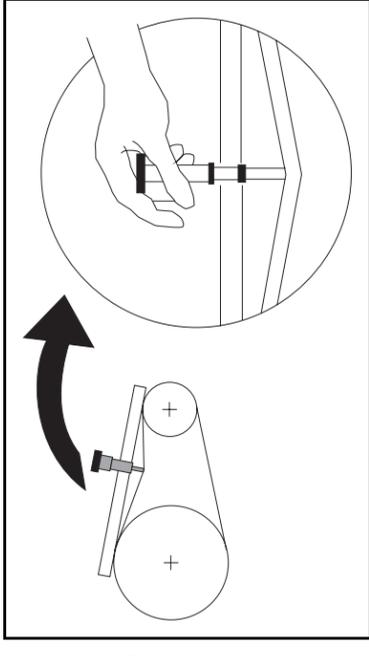

FIGURE 3 (MSSM0215AE)
Check belt tension (FIGURE 3) when replacing and adjusting drive train components. A belt tension testing tool (Milnor® part number 30T001), straight edge, and Belt Tension Specification table is required when setting belt tensions. Check tensions for new belts according to the following schedule:
3. Place a straight edge along the top edge (pulley to pulley) of the belt to be tested. Depress the tension testing tool by sliding the cap against the middle of the belt span until the bottom edge of the lower O-ring aligns with the straight edge as shown in FIGURE 3.